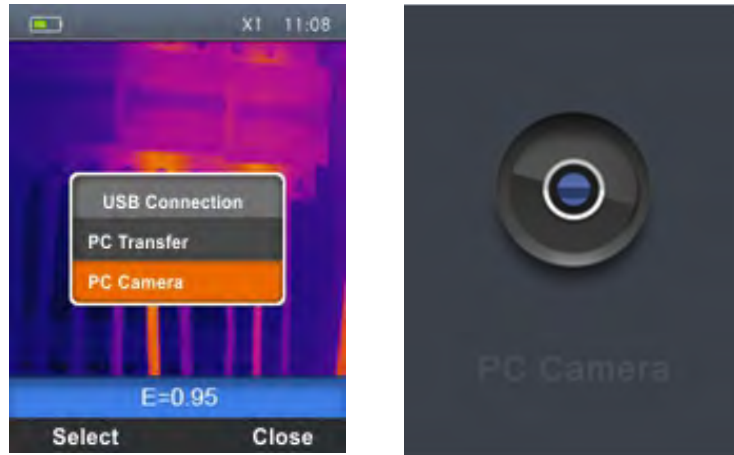

Fig. 39: Displaying an image on the PC in real time
1. Connect the USB cable to the instrument (see Fig. 3 – Part 16) and to the PC. The following screen (see Fig. 39 – Left side) is shown on the display:
2. Use the keys \oplus or \ominus to select the option “PC Camera” and press the “Select” key. The screen Fig. 39 – Right side is shown on the display.